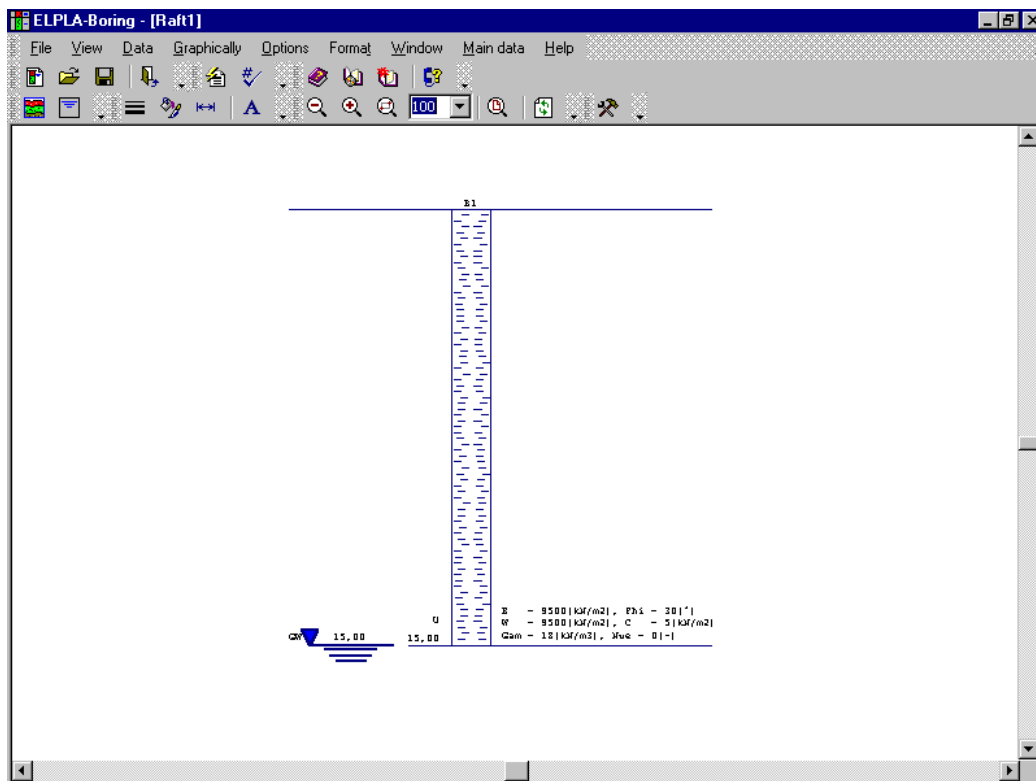

Figure 3-20 Boring log on the screen
After the user has completed the definition of all soil properties and parameters, the screen should look like the following Figure 3-20.
- Choose "Save boring logs" command from "File" menu in Figure 3-20 to save the data of the boring log
- Choose "Close boring logs" command from "File" menu in Figure 3-20 to close *ELPLA-Boring* and to return to the main window of *ELPLA-Data*